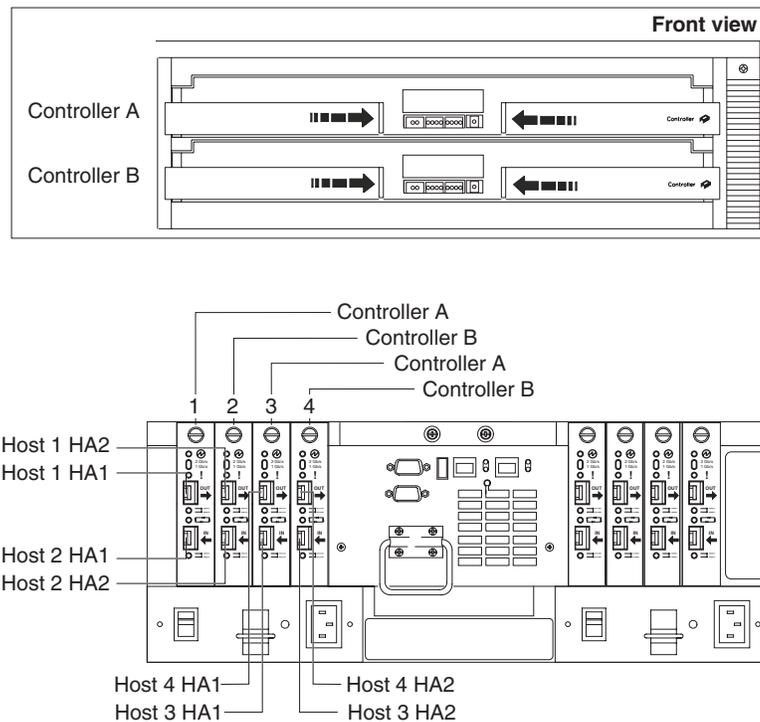

Figure 49. Connecting hosts directly to the controller
1. Connect the first host (Host 1) to the FAST900 Storage Server, as shown in Figure 49.
2. Connect a second host (Host 2) to the FAST900 Storage Server, as shown in Figure 49.
3. Connect a third host (Host 3) to the FAST900 Storage Server, as shown in Figure 49.
4. Connect a fourth host (Host 4) to the FAST900 Storage Server, as shown in Figure 49.